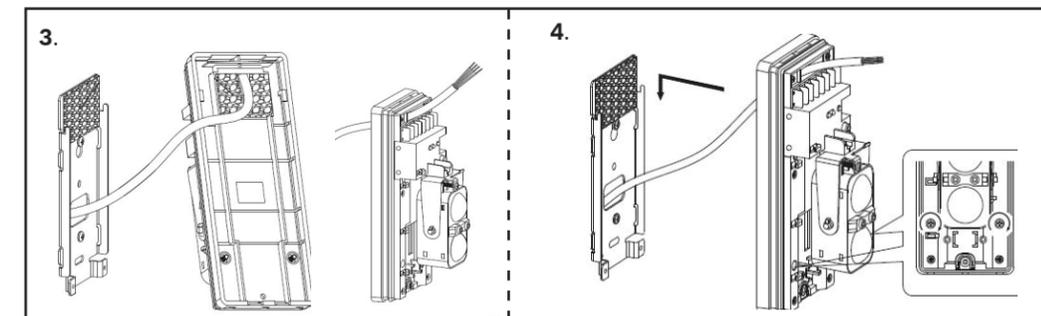

Figure 2.2: Inserting the wire and fastening the mounting plate to the sensor.
3. Route the wire through by inserting the wire between the foam sealing block. Verify the foam seals against the wires to prevent insects from entering the device. Refer to Figure 2.2.